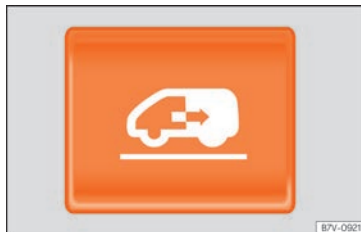

Fig. 99 On the instrument panel, on the vehicle key and on the inside lining of the sliding door: button to open and close an electric sliding door.
- Press the » Fig. 99 button on the dash panel, on the remote control key and on the interior lining of the sliding door. The sliding door opens with the rollback anti-trap function as long as the button is not pressed again.
- Press the » Fig. 99 button on the dash panel, on the remote control key and on the interior lining of the sliding door. The sliding door closes with the rollback anti-trap function as long as the button is not pressed again. As it closes, a warning sound is given.
- Press and hold the  button »» » Fig. 99.